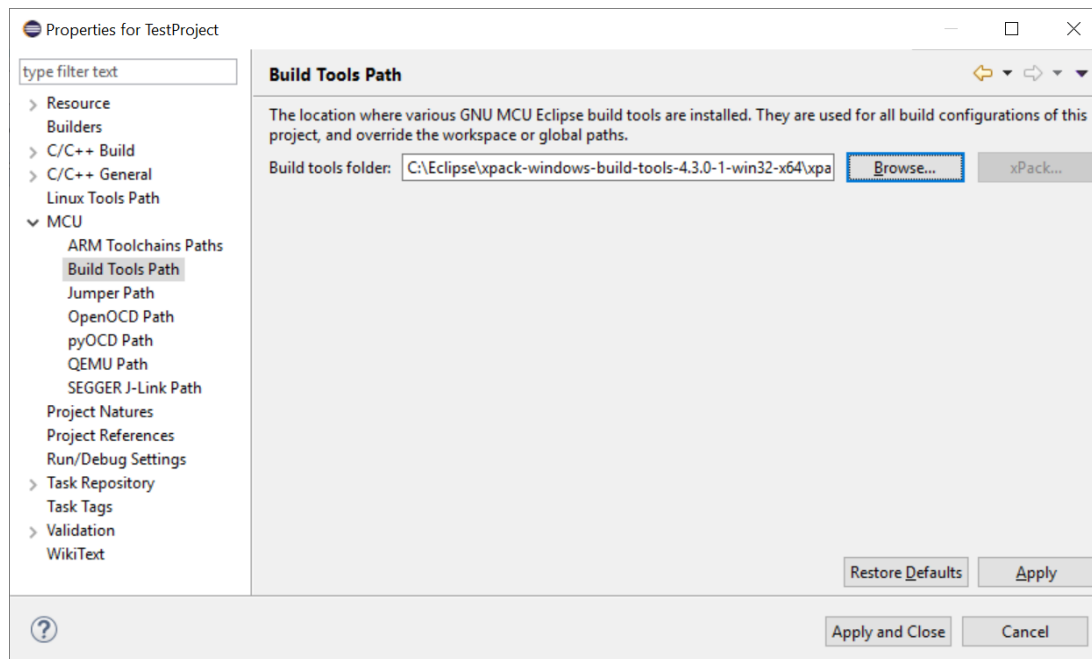

Figure 2-8 Build Tool Setting
1. Select the Build tools and configure path as in Figure 2-8.